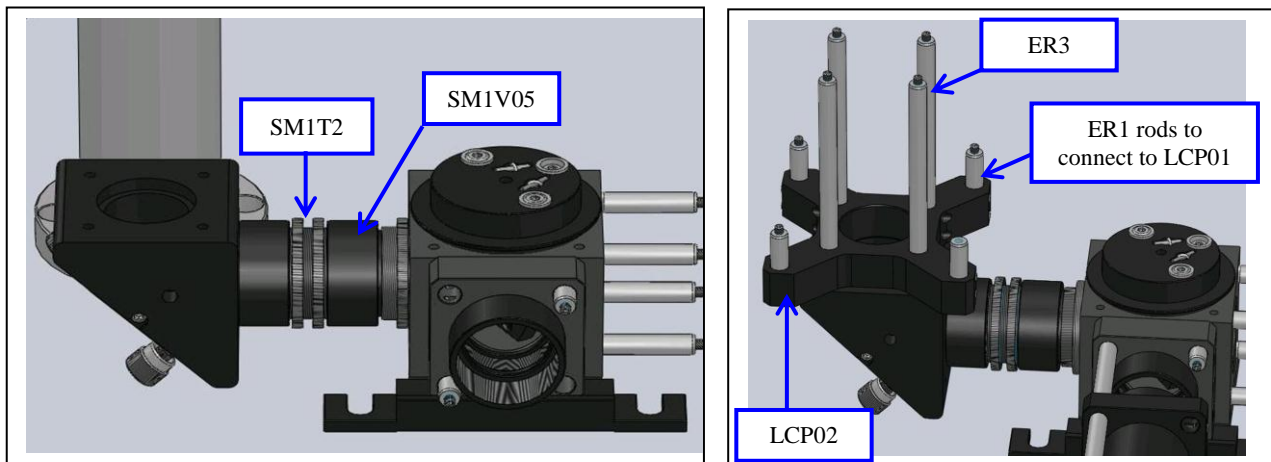

Figure 5.2.2: (Left) Assembly between the cage cube and the KCB1 for the vertical segment. (Right) ER3 cage rods and LCP02 for vertical segment.
13. Remove the studs from one end of two ER1 rods and fully thread the ends with studs onto the diagonal (as shown in Figure 5.2.2) of the C6W from previous step. Connect this C6W to the CP02T from Step 10 using the two ER1 cage rods. The cage rods should be located diagonally across the cage from each other. Do not use the same orientation that was used in Step 11.
19. Insert the B4C into the top of the C6W and coarsely align it so that the beam is reflected 90° to the left. If the B5C is mounted at the appropriate hole on the B4C, and the coarse adjustment is correct, the kinematic adjusters on the B4C should be aligned along the diagonal of the C6W as shown in Figure 5.2.2. Use the four screws that came with the B4C to connect it to the C6W such that it can still rotate on top of it.
25. Connect four ER3 rods to the upper face of the KCB1. Slide an LCP02 into these ER3 rods and tighten the set screws once the faces of the KCB1 and LCP02 are in contact as shown in Figure 5.2.2 (right). Note that the 4 ER03 rods will slide through LCP02 when the set screws have been slightly released.